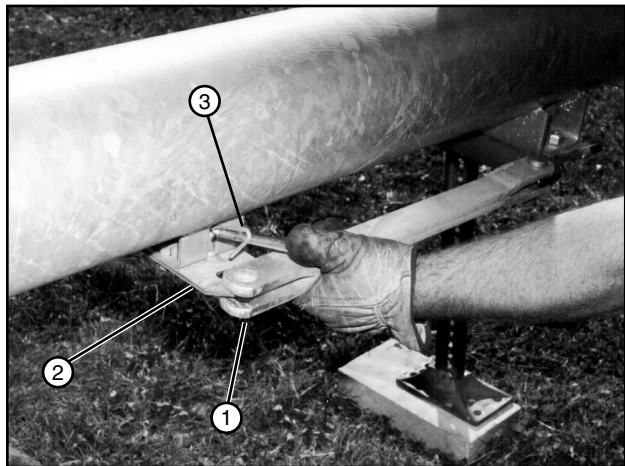

Figure 38-2 1. Tow Link Bar
6. Rotate tow link bar into the tow link carrier until the carrier spring latches into the hole in tow link bar. See Figure 38-2.